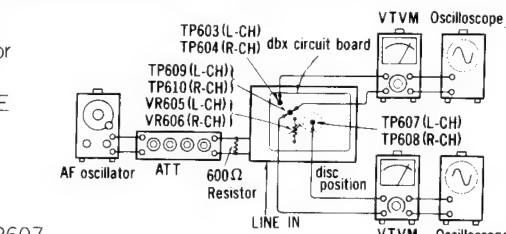

Fig. 10
① Adjustment of RMS detector Condition: * Stop mode * Input level controls ... MAX * Noise reduction selector ... disc Equipment: * VTVM * AF oscillator * ATT * Oscilloscope * Resistor (600Ω)	1. Make the connections as shown in fig. 10, and set the noise reduction selector to disc position. 2. Apply 50Hz -27dB signal from LINE IN. 3. Adjust ATT so that the signal level at TP603 (L-CH) and TP604 (R-CH) becomes 300mV. 4. Make sure that the output signal at TP607 (L-CH) and TP608 (R-CH) is at 100Hz sine wave. If the output signal is not sinusoidal as shown in fig. 11, adjust VR605 (L-CH) and VR606 (R-CH) to make it sinusoidal. NOTE: The voltage of the output signal after adjustment is about 0.8 to 1.1mVrms.
② Adjustment of dbx standard level 	NOTE: Be sure to perform the standard level adjustment in dbx Encode, followed by the standard level adjustment in dbx Decode.